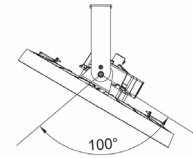

FIGURE 7
4. After installation, connect the wire of the fixture to the mains according to local wiring rules, ensure the connection is stable and make good protection on the connection. By adjusting the brackets screws, users can adjust 50° to the left or right vertically (Figure 7).
- Step 4. Connect the fixture wires to the mains in accordance with local wiring regulations. Ensure all connections are secure and properly insulated. The bracket screws can then be adjusted to tilt the fixture vertically up to 50° to either side (see Figure 7).